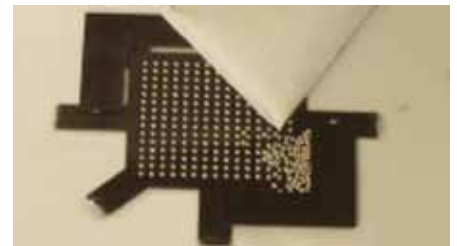

Figure 3
6. Carefully pour off excess spheres (ensuring that each aperture in the fixture has captured a single sphere. (Figure 3.)